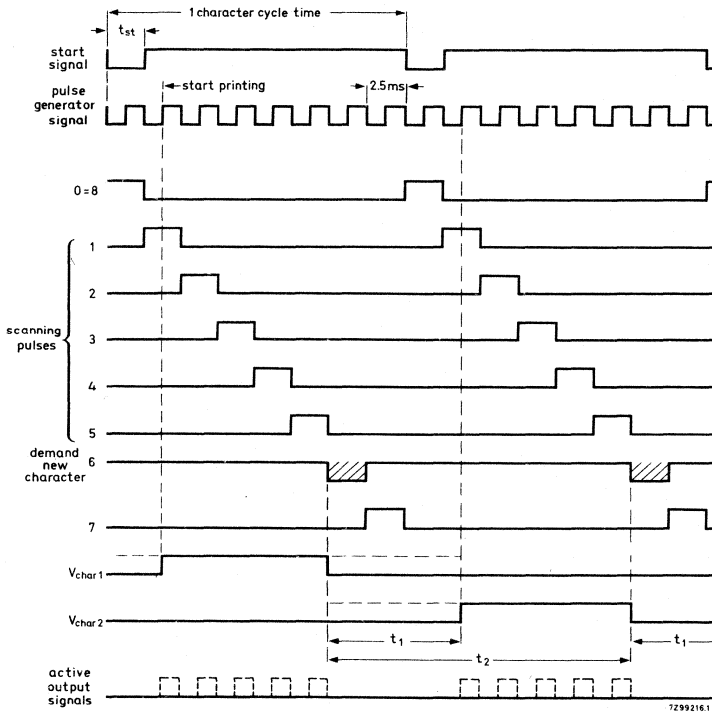

Fig. 2. Time sequence diagram of the printing operation.
****) Minimum duration can be found in Fig. 2 (V_{char 1} and V_{char 2}).